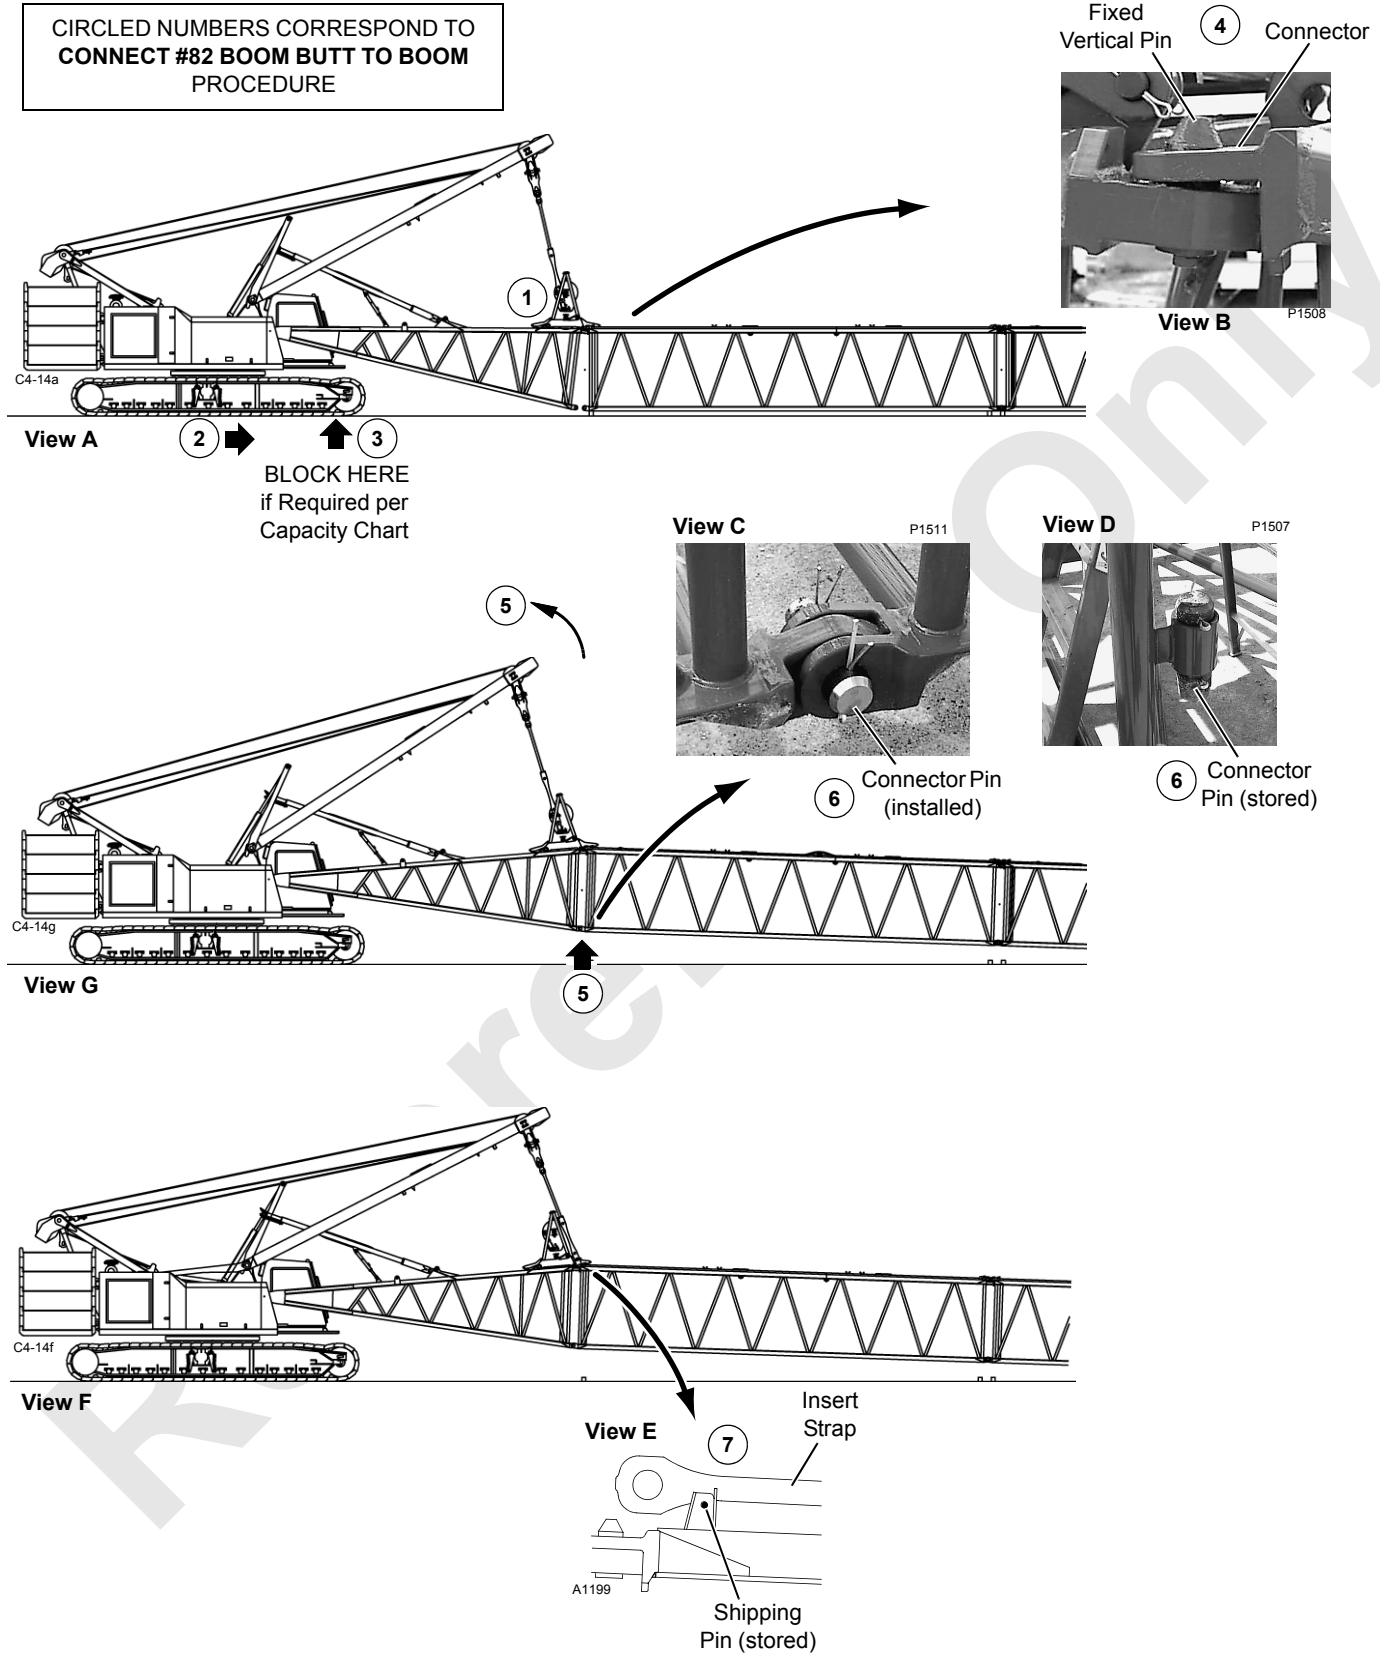

FIGURE 4-14
See FIGURE 4-14 continued for the following procedure.
- Electric cable from crane (FIGURE 4-14 continued, View L) to cable reel on boom butt.